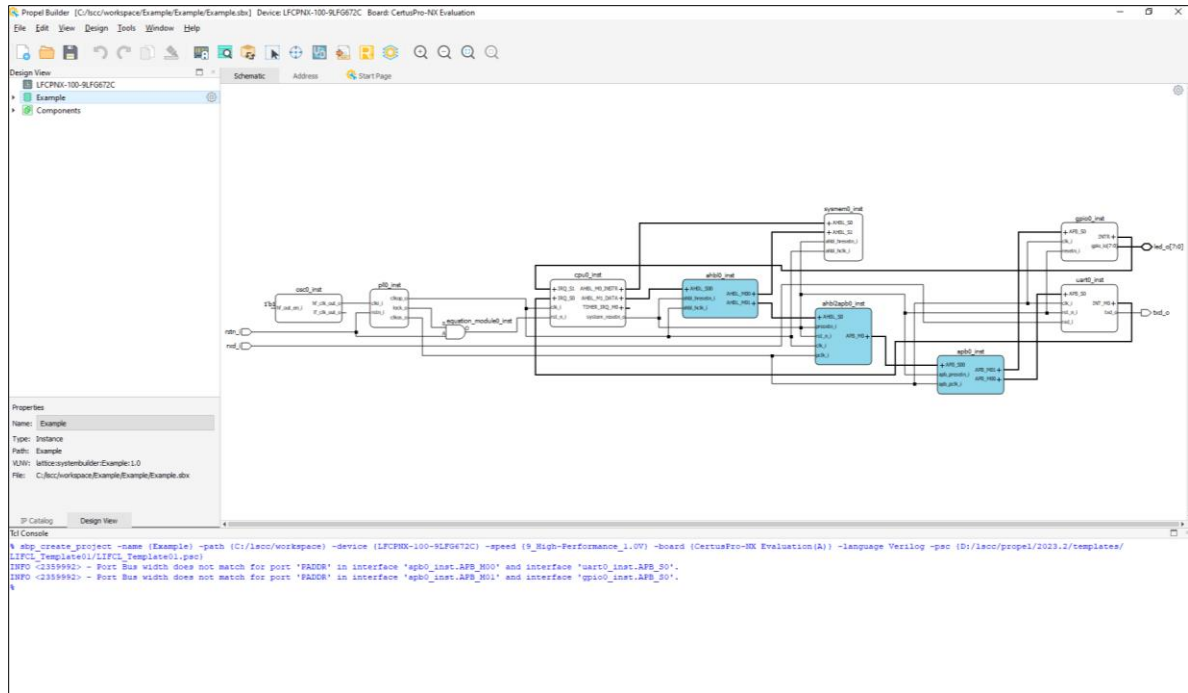

Figure 2.11. Propeller Builder GUI showing Template SoC Project
8. Click **Finish**. The Propel Builder GUI opens (Figure 2.11).